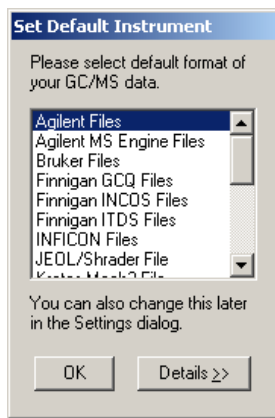

Figure 61 Set Default Instrument
- 3 Run AMDIS and select **Agilent Files** in the Set Default Instrument dialog (Figure 61).